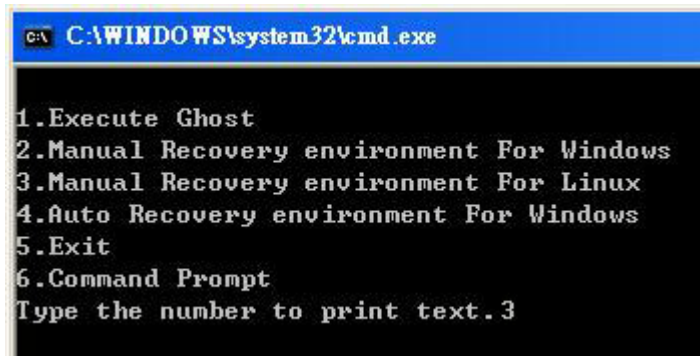

Figure B-30: Manual Recovery Environment for Linux
Step 4: Build the recovery partition. Press any key to boot from the recovery CD. It will take a while to launch the recovery tool. Please be patient. When the recovery tool setup menu appears, type <3> and press <Enter> (**Figure B-30**). The Symantec Ghost window appears and starts configuring the system to build a recovery partition. After completing the system configuration, press any key to reboot the system. Eject the recovery CD.